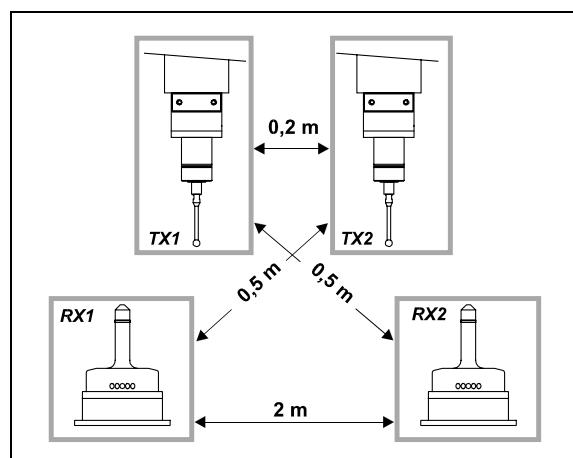

Figure 6-2. Distances when using more than one system.
**NOTE:** when using 2 systems on the same machine (e.g.: twin spindle machining centres), as well as observing the distances indicated in Figure 6-2, you must also use two NON-adjacent channels and identification codes "A" and "D".